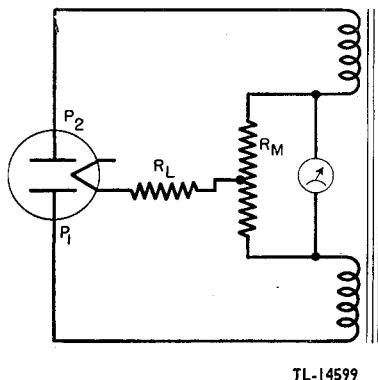

Figure 7. Tube Tester I-177, rectifier diagram illustrating theory.
a. Examine first the simple full-wave rectifier circuit shown in figure 7. The two power transformer secondary windings have their inner ends connected to a direct-current milliammeter. Across the milliammeter is a center-tapped resistor R_M. The load is shown as a resistance R_L, connected between the center tap and the rectifier filament as in any full-wave rectifier circuit. When rectifier plate P₂ is positive, electron flow is through the upper half of R_M, and the meter tends to deflect in one direction. When P₁ is positive, electron flow is through the lower half of R_M, and the meter tends to deflect in the other direction. With the load resistance fixed and equal forces acting on the meter in both cases, the meter stays at zero because it cannot follow variations at the power line frequency.